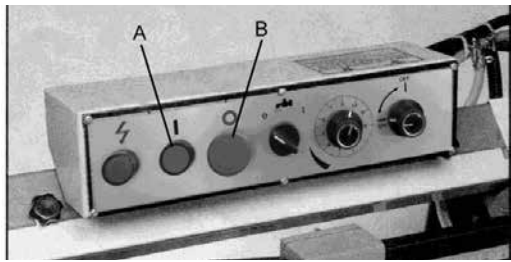

**Figure 4. Front of Bandsaw**
7. Lift the saw frame up and turn off the feed control (Figure 4, item C).
9. Make sure the left blade guide bracket (A) is adjusted as close as possible to the left vise jaw (B). Loose blade guide will affect cutting accuracy.
10. Turn the feed control (C) counter-clockwise until the saw blade begins to lower by the desired rate.